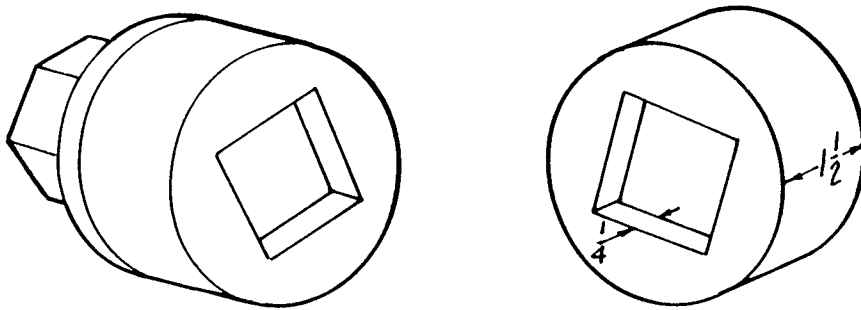

Figure 3
- 2 shop-made wooden chucks that are recessed 1/4-inch deep and 3-inches square. Mount one recessed chuck on a faceplate and use the second at the tailstock end (figure 3).